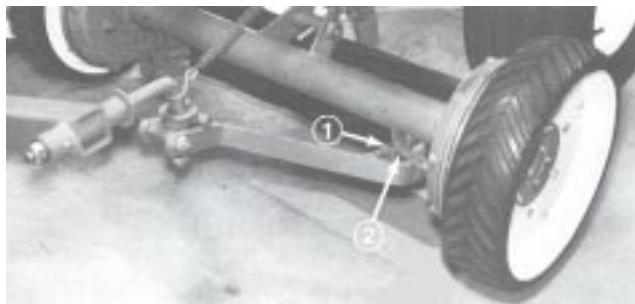

Figure 15
1. Align holes in drawbar with brackets on mower cross-tubes. Secure each side with 1/2-13 x 3-1/2" lg. capscrew, spacer tube and 1/2-13 locknut (Fig. 15).